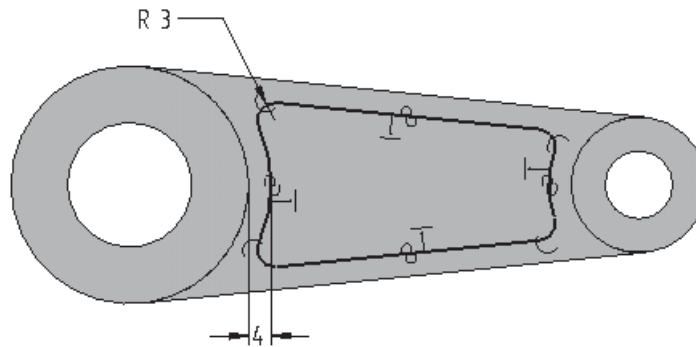

Figure 4-71 Sketch after adding fillet
- Invoke the **Sketch** tool and draw a sketch on the x-y plane, refer to Figure 4-71.
7. Add a fillet of radius 3 to the vertices of the projected loop. The sketch is shown in Figure 4-71.